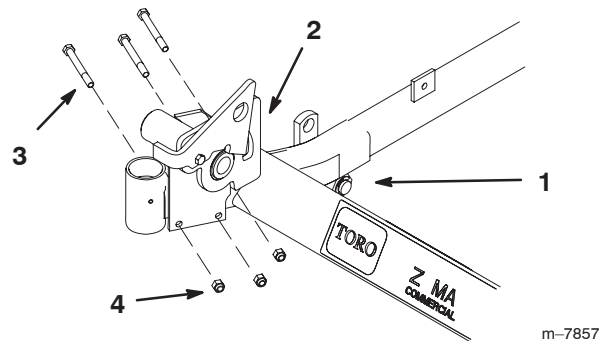

Figure 2
1. Place the Z Stand hub on the right front frame as shown in Figure 2.
2. Install Z Stand hub to frame with 3 bolts (3/8 x 3-1/2 inch) and 3 lock nuts (3/8 inch) (Fig. 2).
Note: Install bolts as shown in Figure 2.